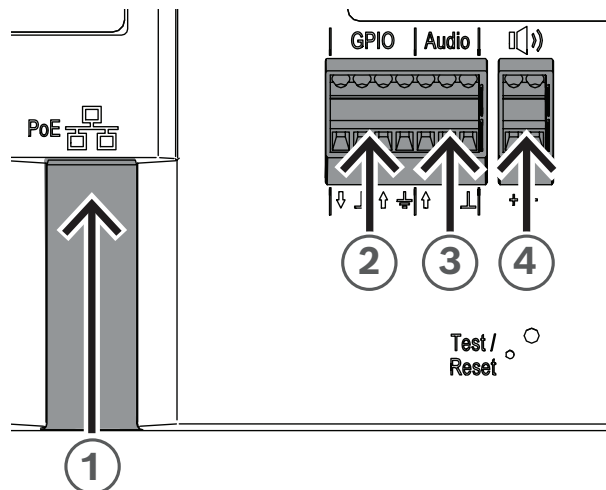

Figure 2.8: Front panel of the IP Amplifier module
Connecting to the network (Figure 2.8, callout 1)
1. Using an Ethernet cable, connect one end of the cable to the PoE/PoE+ port (Figure 2.8, callout 1).
Connecting the GPIO (Figure 2.8, callout 2)
Connecting the analog Audio (Figure 2.8, callout 3)
- Connect the wires to the Audio terminal on the device (Figure 2.8, callout 3).
Connecting the passive loudspeaker (Figure 2.8, callout 4)